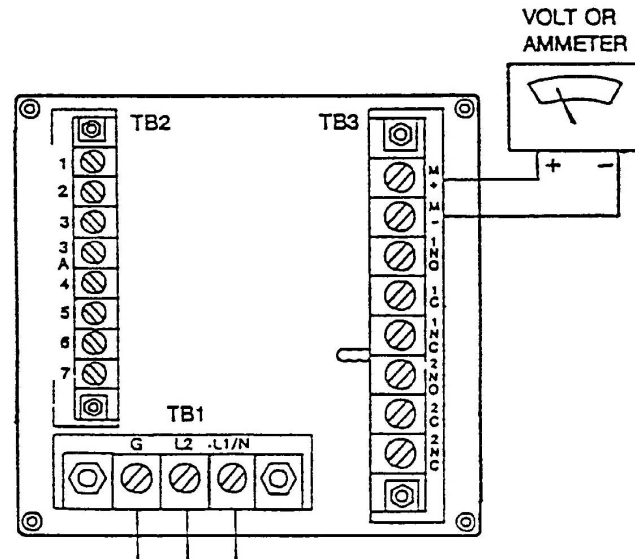

Figure 18. Output Terminals and Volt/Amp Meter (Plastic Version Shown)
1. Connect an ammeter/voltmeter to the analog output terminals. For LCO1 and HCO1, connect to Channel 1 output terminal. For LCO2 and HCO2, connect to Channel 2 output terminals. See Figure 18 and Wiring sections.